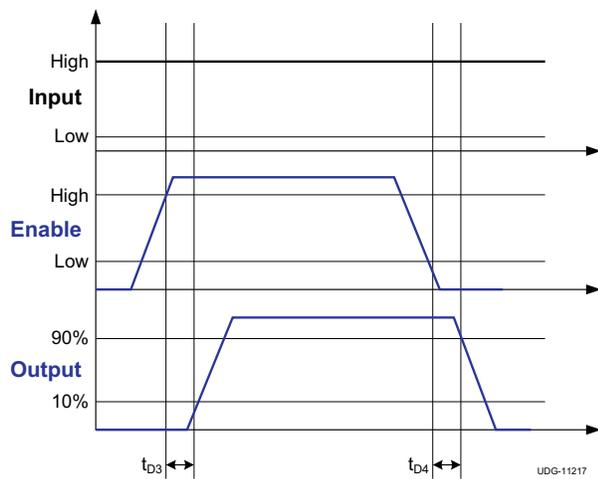
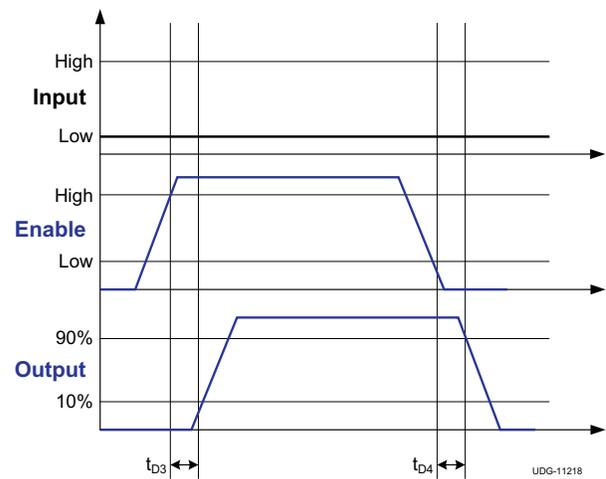
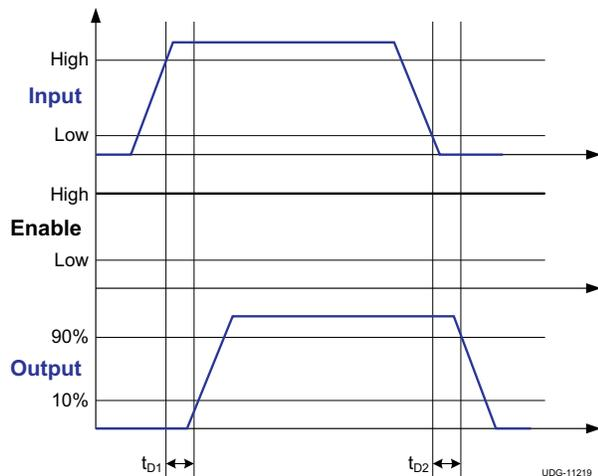

Figure 1. Enable Function (For Non-Inverting Input Driver Operation)
Figure 2. Enable Function (For Inverting Input Driver Operation)
Figure 3. Non-Inverting Input Driver Operation
(1) See timing diagrams in Figure 1, Figure 2, Figure 3, and Figure 4